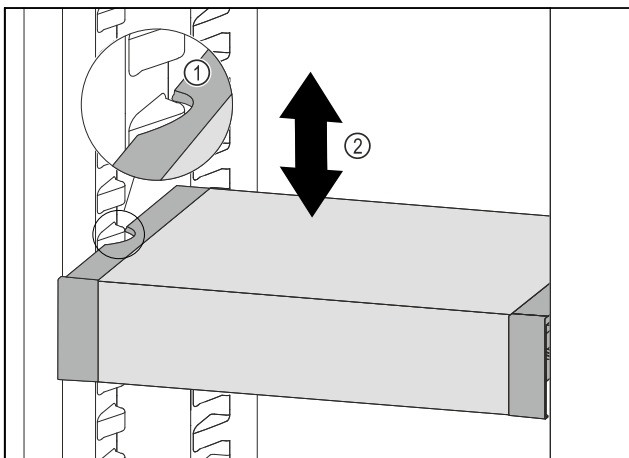

Fig. 75
- ▶ Pull VarioSafe forwards until the recesses in the side of the VarioSafe are at the level of the support rib in the refrigerator compartment. *Fig. 75 (1)*
- ▶ Move VarioSafe up or down in the refrigerator compartment until the desired height is reached. *Fig. 75 (2)*